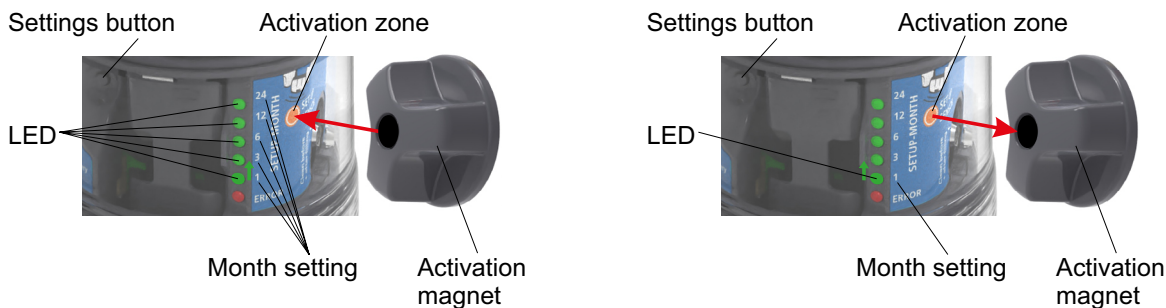

Fig. 8.
- Place the Activation magnet on the activation zone (fig. 8) and hold it there until the red and the orange LED have flashed alternately 5x. As an alternative you can also keep the settings button pressed.